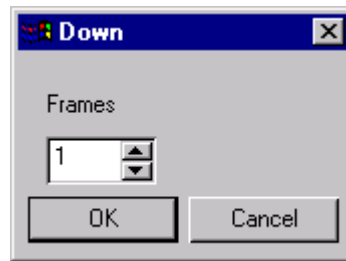

Figure 8-2. Moving Down the Call Stack
1. From the **Modify** menu choose **Down** The dialog box in Figure 8-2 appears.